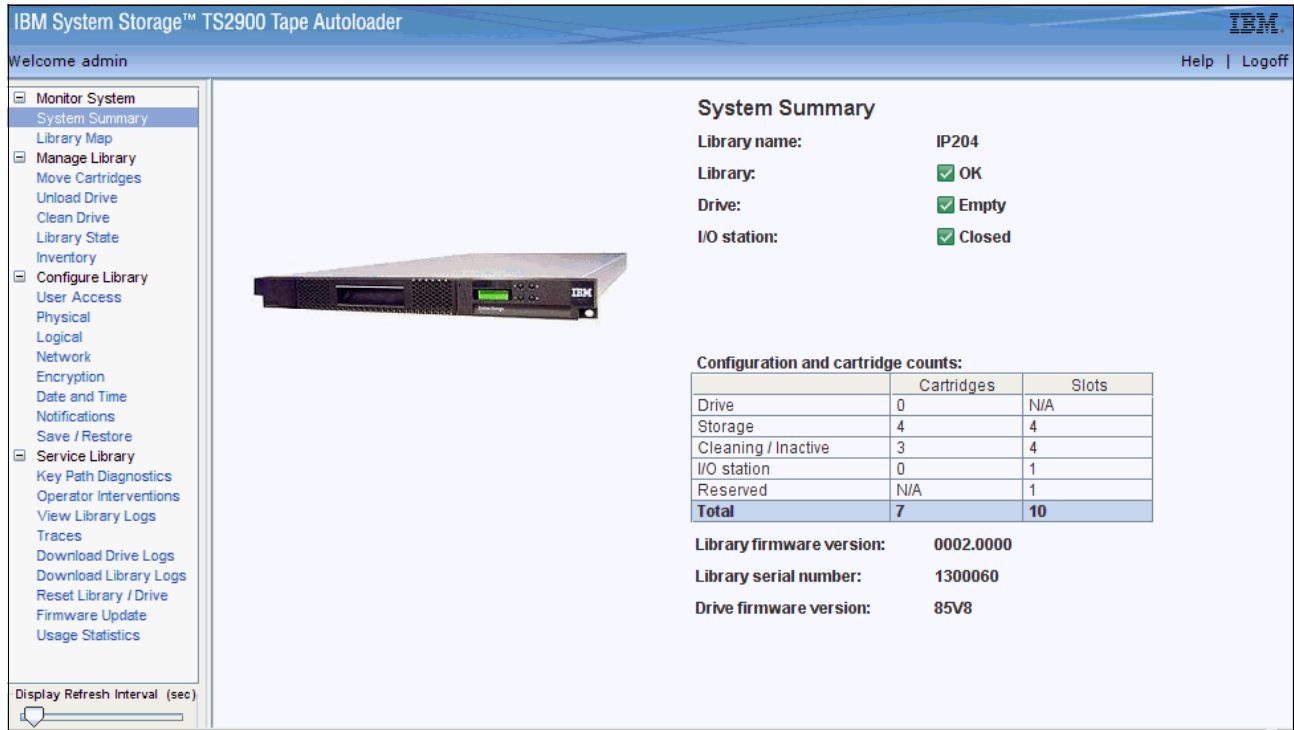

Figure 7-14 TS2900 Tape Autoloader administrator welcome page
9. After you log in to the TS2900 using the Web User Interface, a Welcome page is displayed. Here, you see the summary status of the TS2900 Tape Autoloader, the accessor status, drive status, firmware level, and the serial number. Figure 7-14 on page 175 shows an example of the Web UI using the Administrator account.